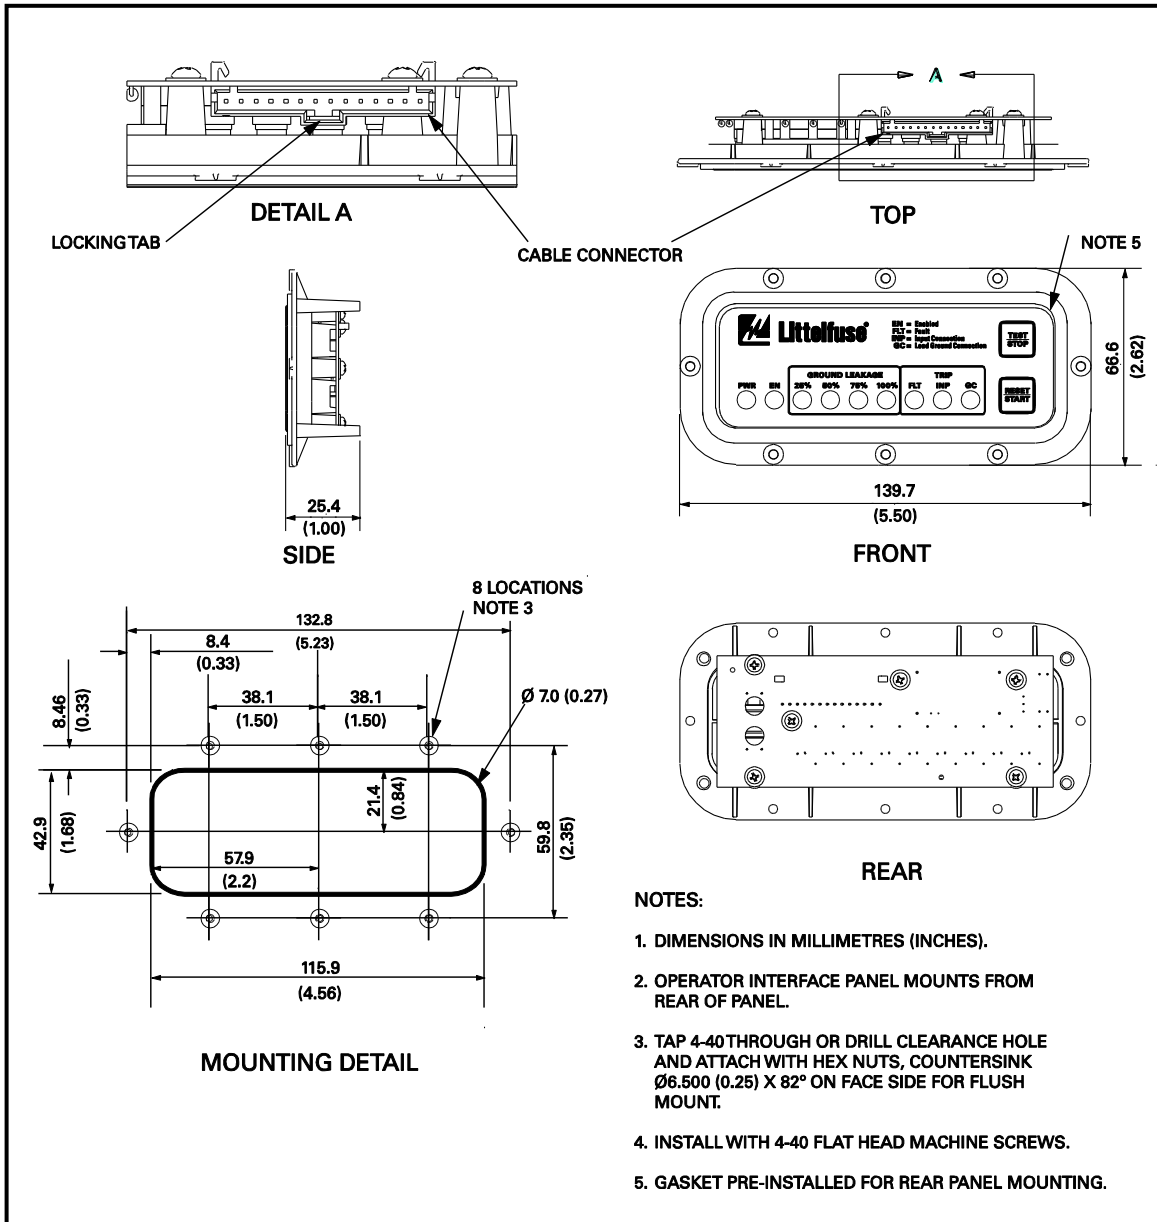

FIGURE 6. SB6100 Operator Interface (AC6000-OPI-00) Outline and Mounting Details.
The AC6000-OPI-00 should be mounted from the back side of a panel. Prepare a mounting cut-out as shown in Fig. 6. For a water-resistant installation, ensure that the supplied gasket makes suitable contact with the panel. Secure with eight 4-40 machine screws and hex nuts. If it is desired to have a flush install, use flat-head machine screws and countersink the holes as shown in Fig. 6. Attach the supplied cable to the SB6100 15-pin connector labeled OPI, securing with the supplied screws, and to the AC6000-OPI-00, ensuring that the connector locks into place. Secure the cable with cable ties.
The operator interface (AC6000-OPI-00) provides indication and control for the SB6100. The AC6000-OPI-00 has nine LED's and two buttons (TEST/STOP and RESET/START). The LED's indicate power (PWR), output state (EN), ground leakage (25%, 50%, 75%, and 100%), and trip status (FLT, INP, and GC). See Figs. 6 and 7.